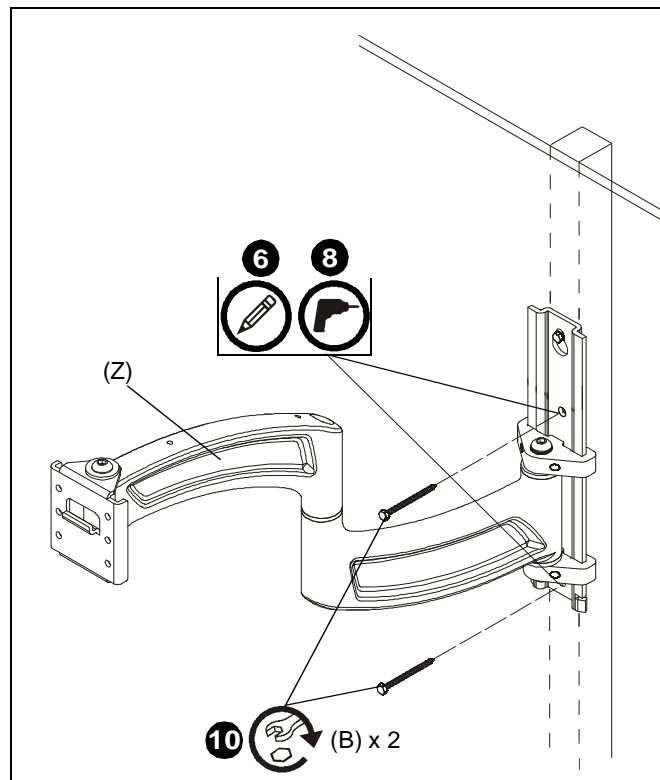

Figure 2
6. Mark two holes at lower mounting hole locations. (See Figure 2)
7. Remove arm assembly (Z) from wall.
8. Drill two 1/8" holes at locations marked in Step 6. (See Figure 2)
9. Hang arm assembly (Z) back onto wall.
10. Install two 1/4 x 2 1/2" lag bolts (B) into holes drilled in Step 8 to secure mount to wall. (See Figure 2)
11. Tighten all three lag bolts (B) to fully secure mount to wall.